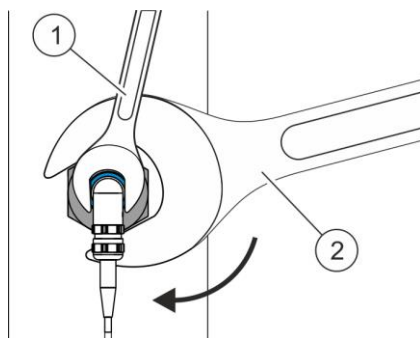

Fig. 69: Tightening the nut of the transmitter
6. Attach the fixing nut with the 46 mm open-ended spanner (Fig. 69/2) while holding the transmitter in position with the 20 mm open-ended spanner (Fig. 69/1).